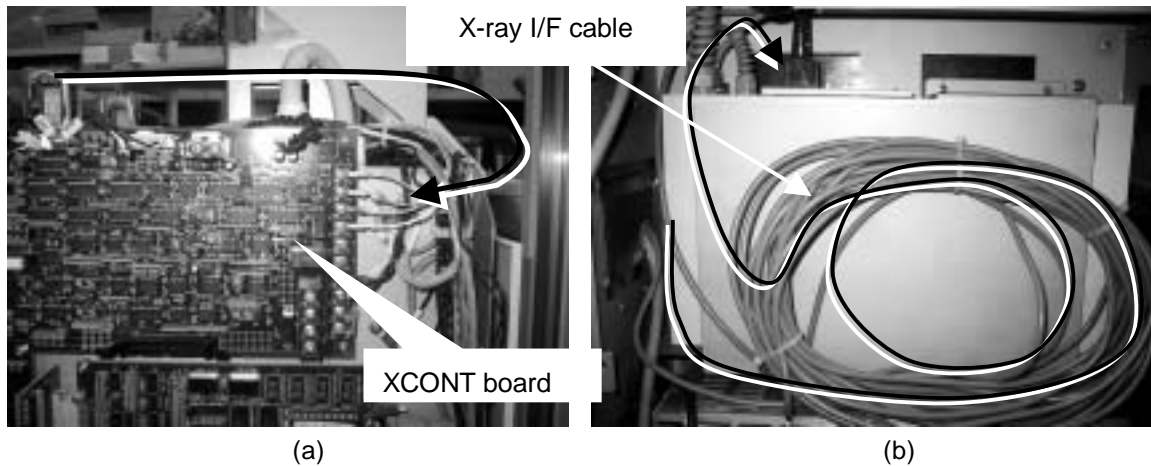

Fig. 4-3 X-ray I/F cable wiring
- Connect the X-ray I/F cable to the Power Box and terminals of XCONT board. (Fig. 4-3 (a) (b))
- Roll the excessive cable. (Fig. 4-3 (b))